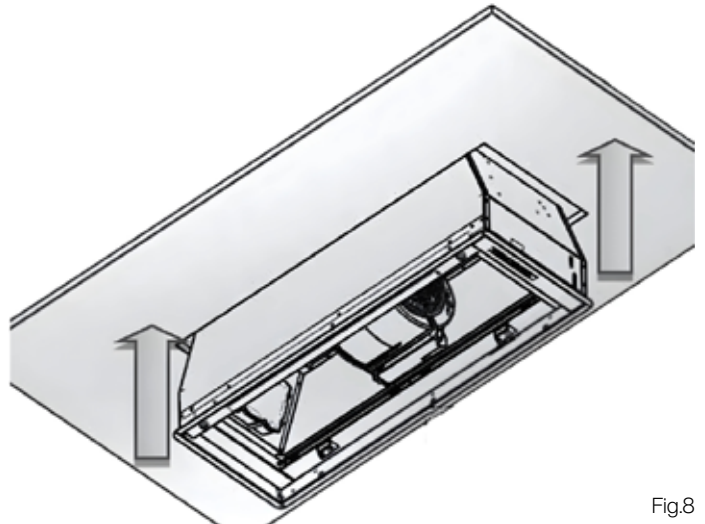

Fig.8
2. Insert the rangehood into the cutout made in the cabinet until the stop click of the side-springs is heard and the rangehood is supported. (Fig.8)